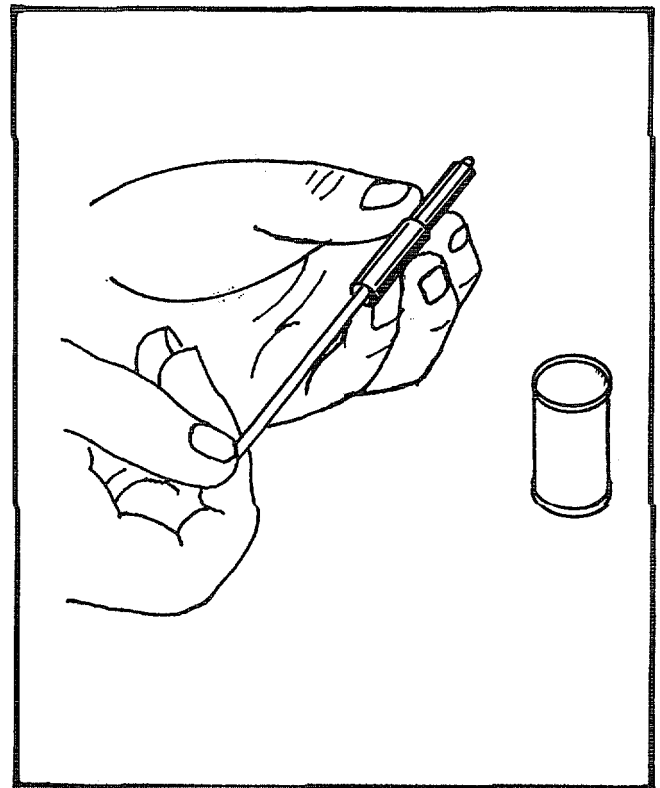

Figure 6-23. Cleaning Nozzle and Seat
(5) Clean the valve seat area with a special brass scraper tool. Use cleaning tallow on the end of a 2.inch (50 mm) cleaning stick to polish the seat. Use a sac hole drill to push the tallow through the orifices. All openings must be open and clean, See Figure 6-23.